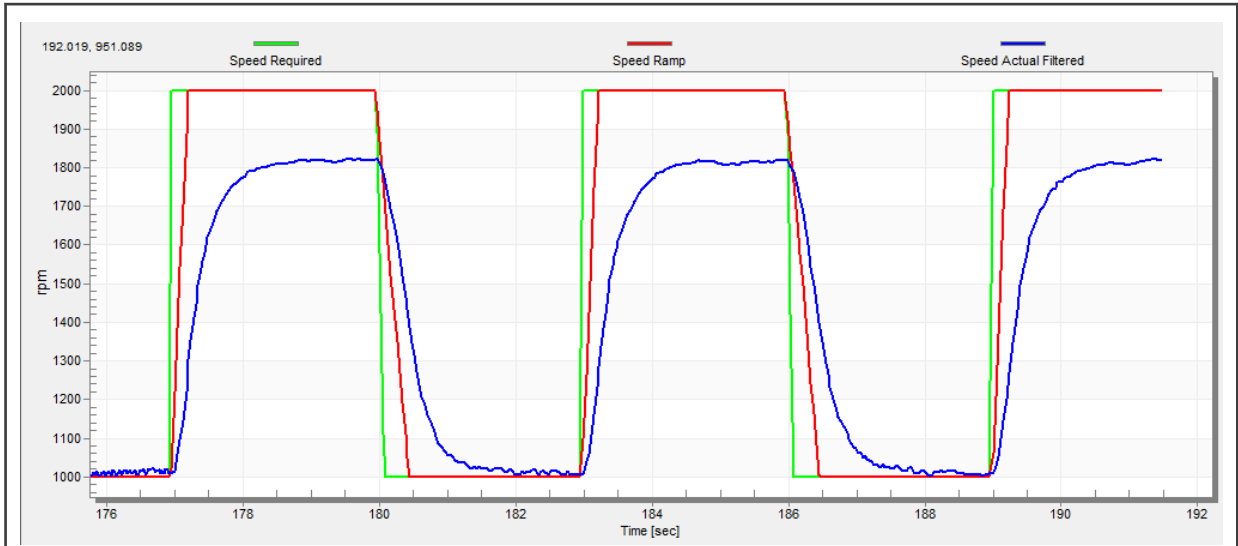

Figure 33. Speed controller response—SL\_Ki value is low, Speed Ramp is not achieved
The motor speed control loop is a first-order function with a mechanical time constant that depends on the motor inertia and friction. If the mechanical constant is available, the PI controller constants can be tuned using the loop bandwidth and attenuation. Otherwise, the manual tuning of the P and I portions of the speed controllers is available to obtain the required speed response (see the example response in Figure 33). There are dozens of approaches to tune the PI controller constants. The following steps provide an approach to set and tune the speed PI controller for a PM synchronous motor:
- The “SL\_Ki” value is low and the “Speed Actual Filtered” does not achieve the “Speed Ramp” (see Figure 33).